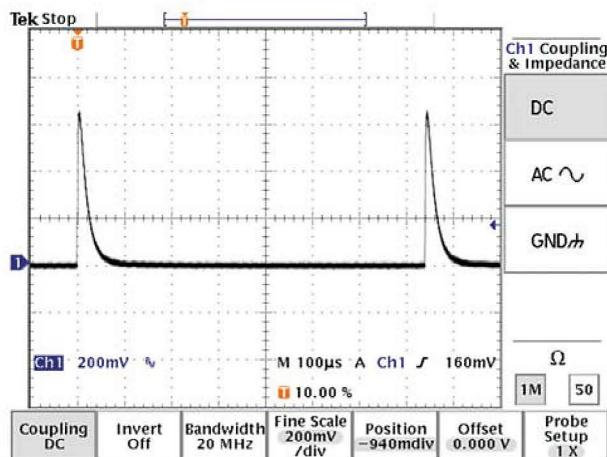

Figure 1
7. If you know your expected laser pulse repetition rate, set the scope time base to show 2 pulses on the screen. This helps set the trigger and allows observation of the true "baseline" of the pulse. For example, for a laser running at 10 pps, set the scope time base to 20 msec/division. Once proper triggering occurs, use the vertical adjust to set the baseline of the EnergyMax voltage pulse to coincide with a horizontal grid line (see Figure 1). This setting becomes the zero for the peak voltage reading.